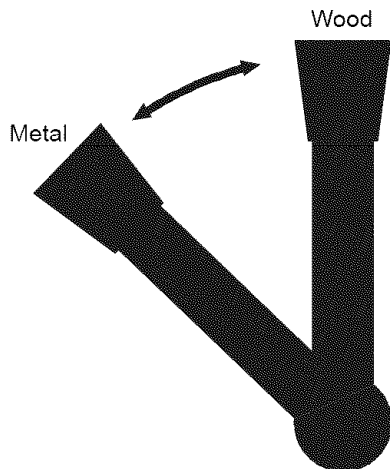

Figure 2 - Clutch Handle Position
Refer to Figure 2, 6-11.
Refer to Figures 2, 8 and 9.
- Position clutch handle (Figure 8, Key No. 60) to "Metal". See Figure 2.
Refer to figures 2, 7, 8, 9 and 11.
- Position clutch handle (Figure 8, Key No. 60) to "Wood". See Figure 2.